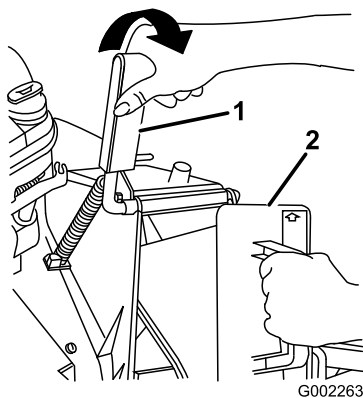

Figure 7
1. Open the discharge door by pulling forward on the handle and moving it rearward (Figure 7). Hold the discharge door handle to prevent the spring-loaded door from closing while you insert the plug.
2. Since the plug is slightly wider than the discharge tunnel opening, rotate the plug clockwise slightly while inserting it (Figure 7).